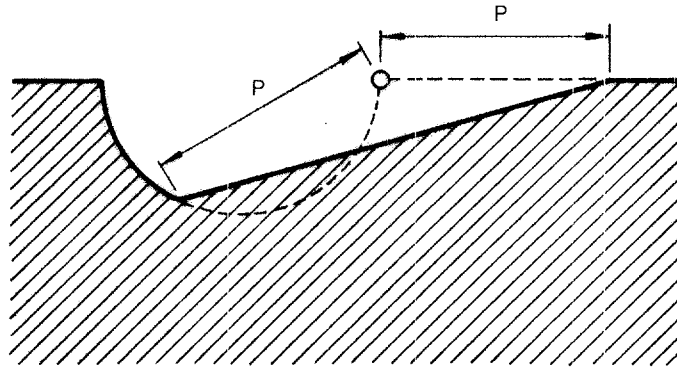

Fig. 4.48 Chamfering between Arc Block and Linear Interpolation Block
(4) Supplements to the Chamfering/Corner Rounding Commands
- Even if the programmed shape is distorted due to the execution of chamfering or corner rounding, these commands are executed. For example, although the chamfering command between the arc block and linear interpolation block causes a path which cuts the inside of the programmed arc as shown in Fig. 4.48, chamfering is executed as programmed.